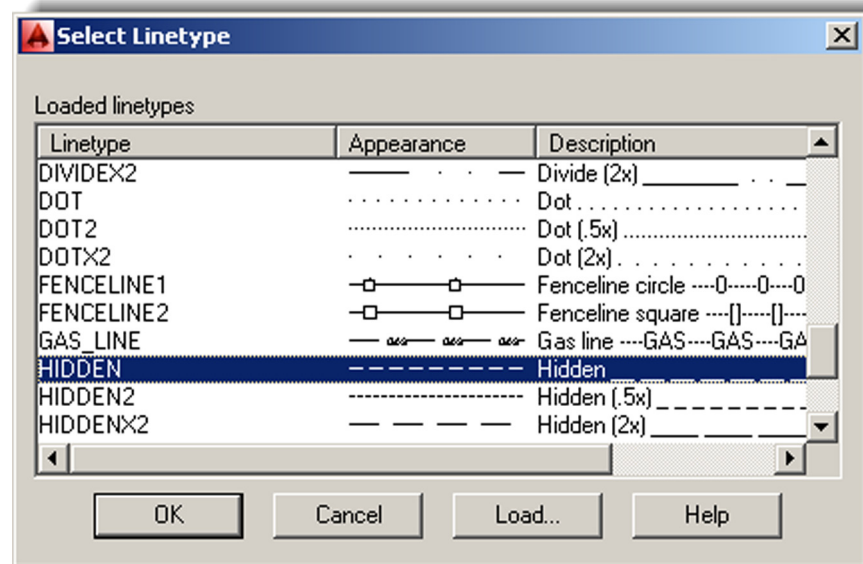

FIGURE 3.9
- Step 3.** Click on the word *Continuous*, and the Select Linetype (Figure 3.9) dialog box comes up with all your linetypes preloaded. If we did not load them earlier, the box would be practically empty and we would have to do the loading at this point.